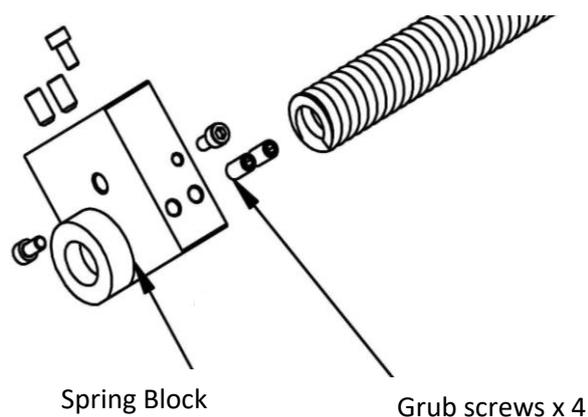

Figure 7
- Loosen the 4 grub screws in the Spring Block. See *Figure 7*